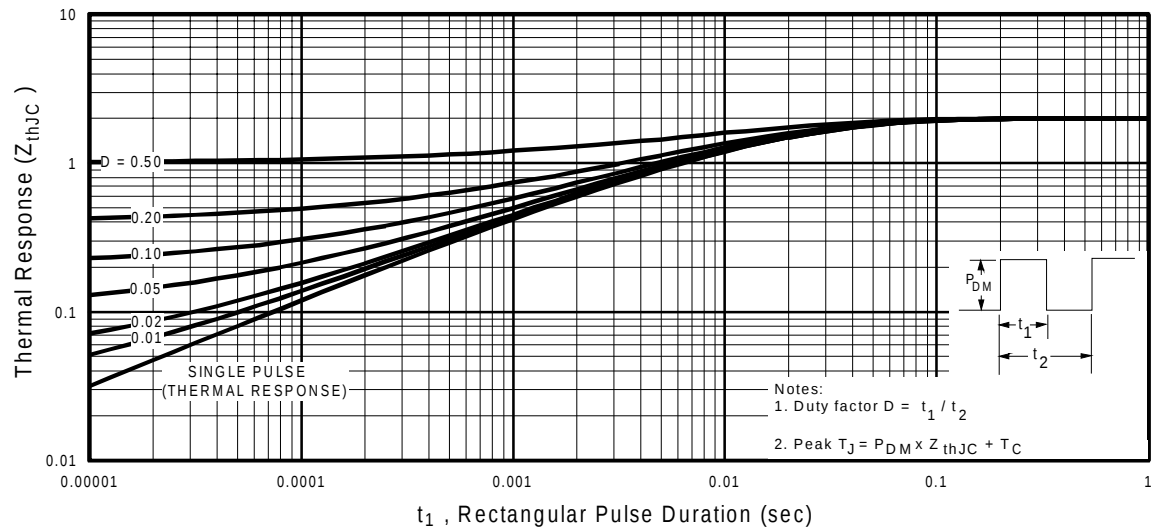

Fig 11. Maximum Effective Transient Thermal Impedance, Junction-to-Case
- ① Repetitive rating; pulse width limited by max. junction temperature. (See fig. 11)
- ② Starting $T_J = 25^\circ\text{C}$, $L = 7.0mH$